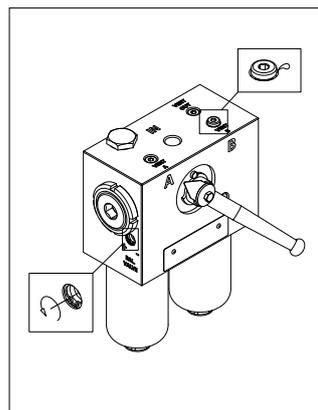

fig. 15
- (Fig. 15) Open the balancing valve by unscrewing it towards the "-" sign. Bleed the air from the system through the breather plug loose by a maximum of one turn, until the operating fluid starts oozing